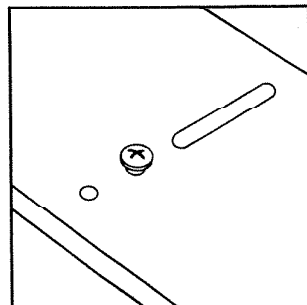

FIGURE 10
3. Connect phone wires and TEL-102-SD phone cradle wires to two terminal screws marked **PHONE** on the master panel's terminal board. See Figure 10.